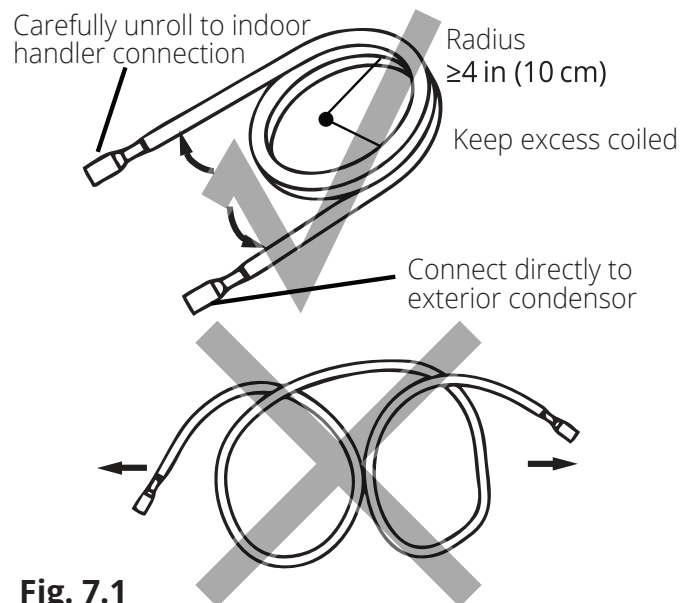

Fig. 7.1
1. Use your hands to slowly unwind the copper piping of one end of the Quick Connect® Line Set. The end you unwind will connect to the indoor unit piping. You should unwind the end until the connectors are close to flat on the ground (with little to no bend). If this is not done, it could make the line set difficult to maneuver when aligning the connectors with the air handler piping. Only unwind as much as necessary for your application, and allow any excess to remain coiled (**Refer to Fig. 7.1**).
When bending connective refrigerant piping, it needs to have a minimum bend radius of 4 inches (**Refer to Fig 7.1**).